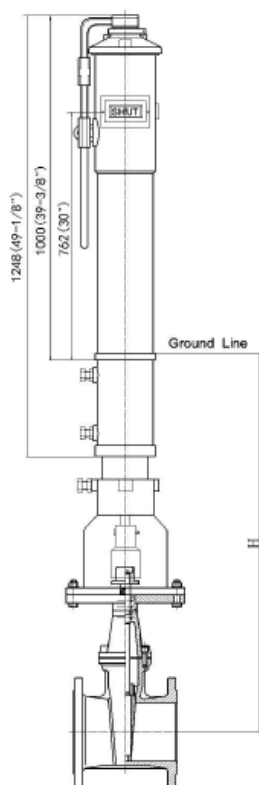

Figure 2
- Close the gate valve, then assembly the driving rod, connecting pipe and bottom flange as figure 2, then mount on gate valve.